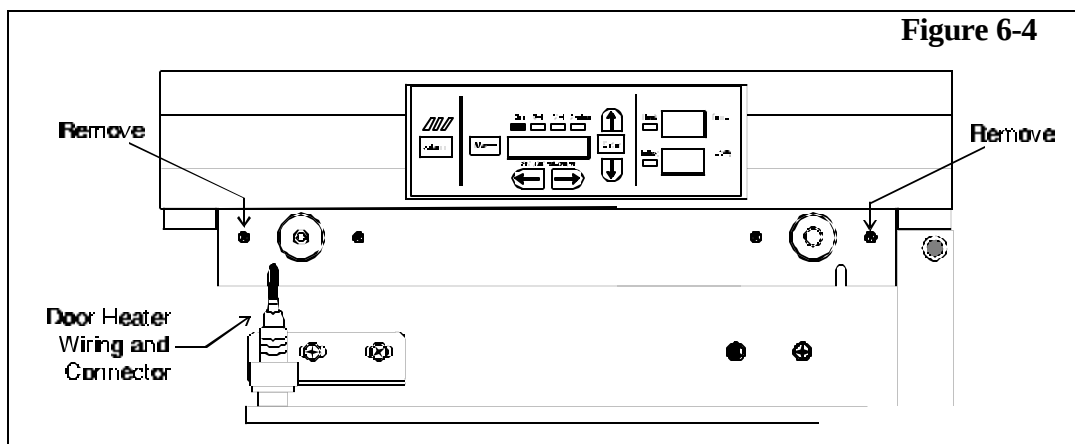

Figure 6-5
- Carefully slide out electronics drawer and locate the Analog Output board. (Figure 6-5)